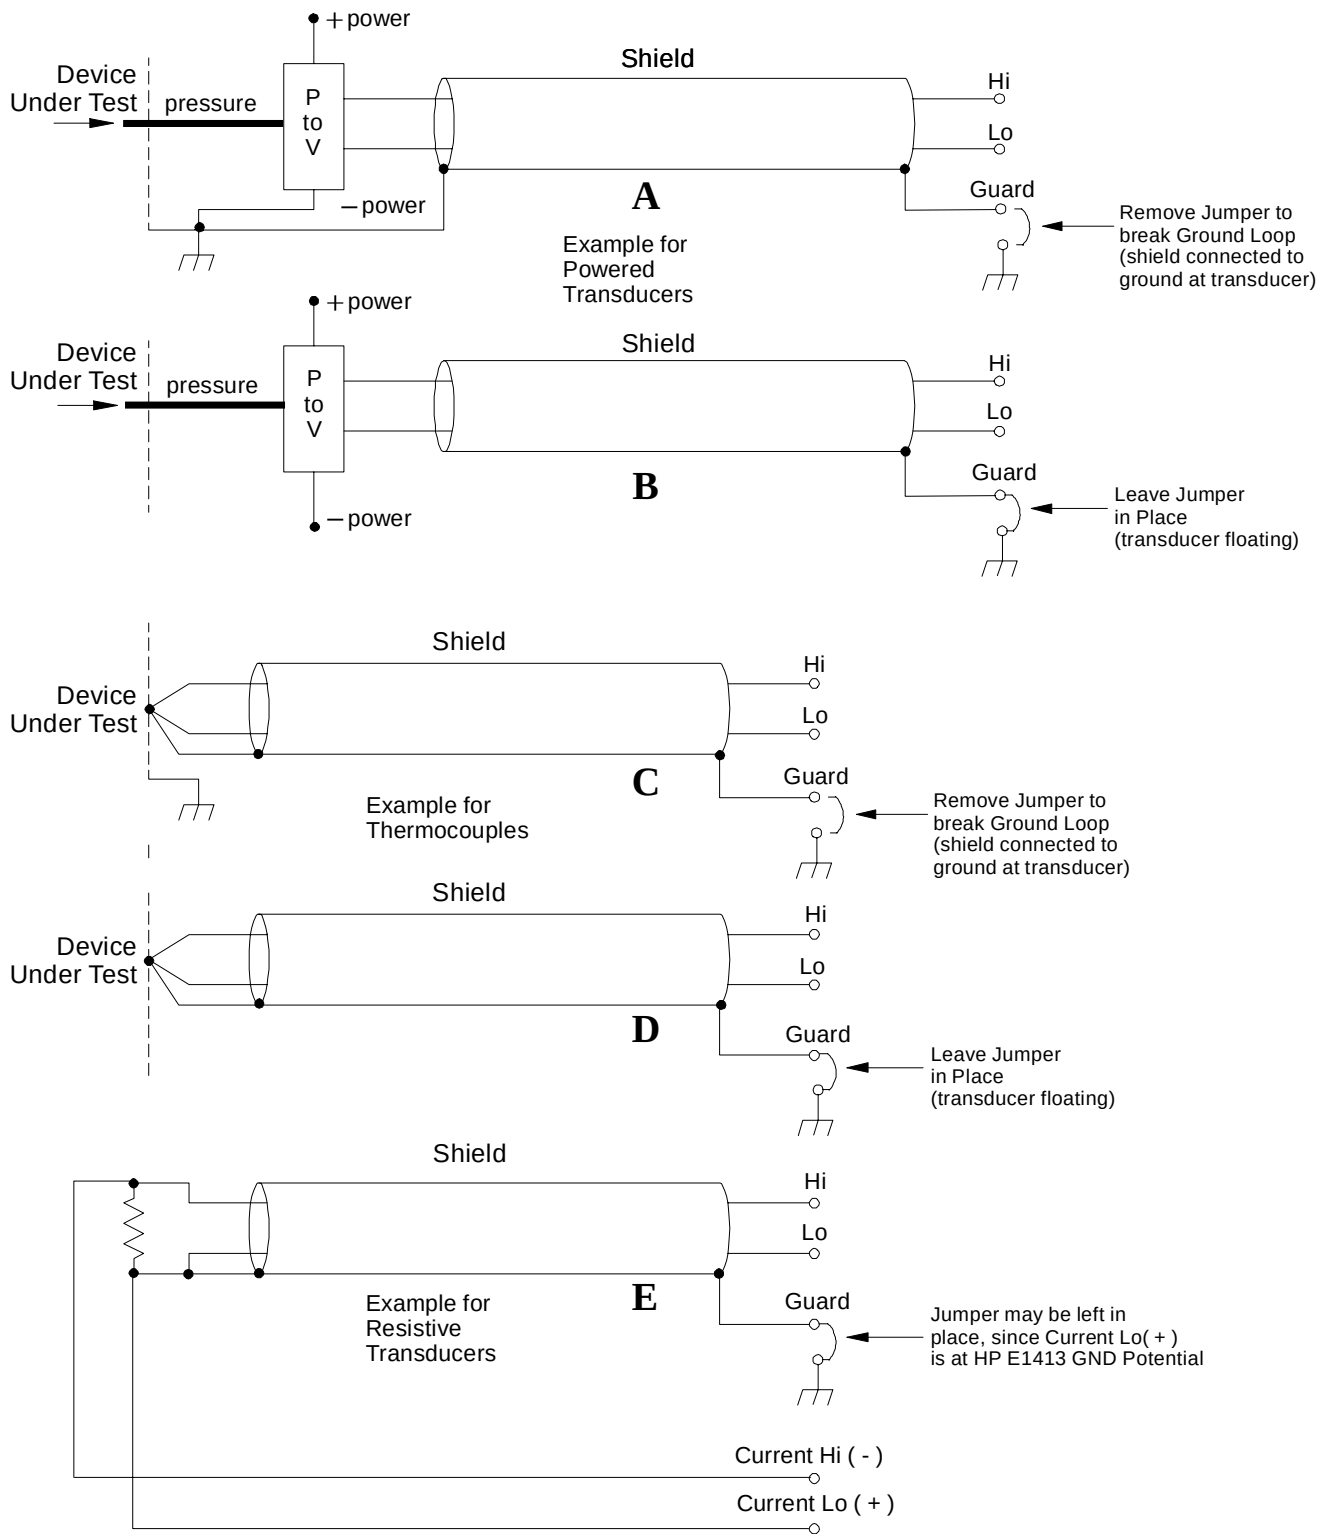

Figure 2-8. Preferred Signal Connections
For any Scanning A/D Converter module to scan channels at high speeds, it must use a very short sample period ($<10\ \mu\text{second}$ for the HP E1413). If significant normal-mode noise is presented to its inputs, that noise will be part of the measurement. To make quiet, accurate measurements in electrically noisy environments, use properly connected shielded wiring between the A/D and the device under test. Figure 2-8 shows recommended connections for powered transducers, thermocouples, and resistance transducers. (See Appendix F for more information on wiring techniques).
- a. **Grounded Transducer with shield connected to ground at the transducer:** Low frequency ground loops (DC and/or 50/60 Hz) can result if the shield is also grounded at the terminal module end. To prevent this, remove the GND-GRD jumper for that channel (Figure 2-8 A/C).
- b. **Floating Transducer with shield connected to the transducer at the source:** In this case, the best performance will most likely be achieved by leaving the GND-GRD jumper in place (Figure 2-8 B/D).